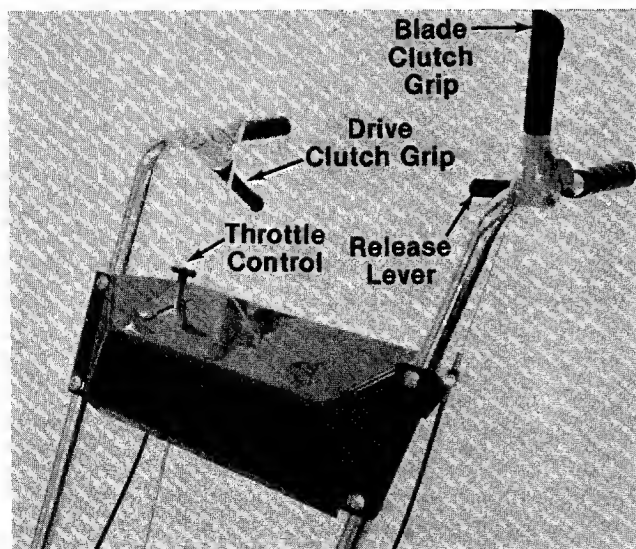

FIGURE 11.
The throttle control is located on the right hand side of handle panel. It controls engine speed. See figure 11.
The drive clutch grip is located on the right handle of the mower. Squeezing the clutch grip engages the drive pinions into the wheels. Release the clutch handle and the forward motion of the mower stops. You must release the clutch handle to make a turn. See figure 11.
The blade clutch grip is located on the left handle. Push the release lever to free the blade clutch grip, then squeeze the clutch grip against the handle to engage the blade. Release the grip to stop the blade from turning. See figure 11.
1. Be certain both clutch grips are in the disengaged position (released). See figure 11.
2. Move the throttle control to the "CHOKE" position. See figure 11.